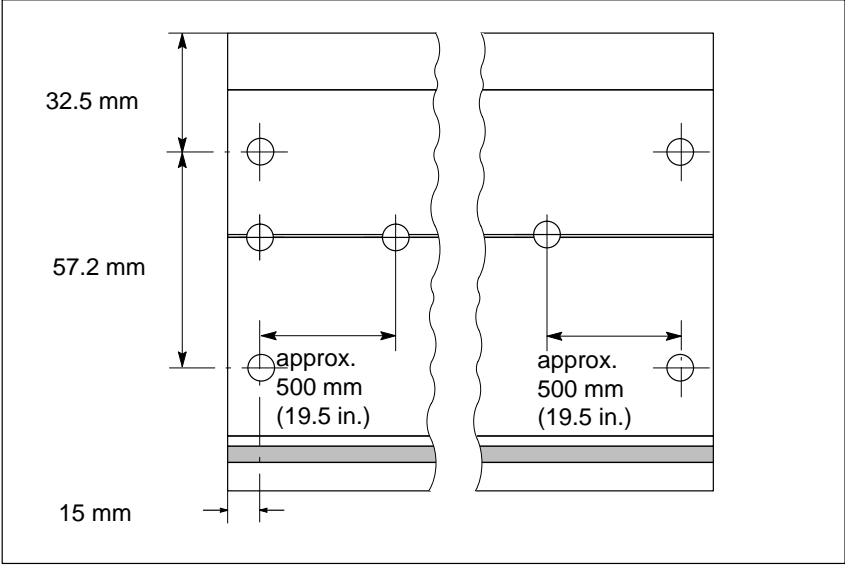

Figure 5-4 Dimensions for Fixing Holes on the 2 m/6.56 ft. Rail
- four holes for fixing screws (dimensions: see Figure 5-4)
The dimensions for positioning the fixing holes are shown in Figure 5-4.